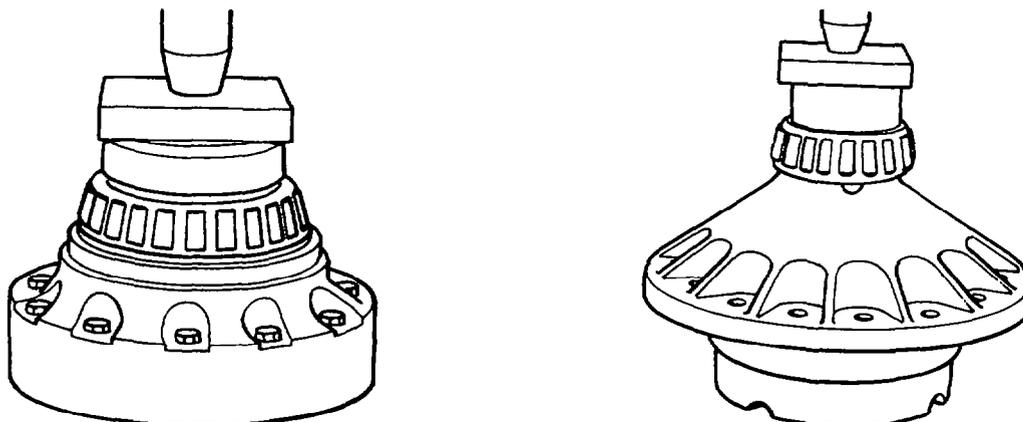

Fig. 357 — Installing Bearing Cones
- a. Press the bearing cones (items 10 and 22) onto the differential cases (items 12 and 20) using a press and suitable hollow drift or tubing. Refer to fig. 357.